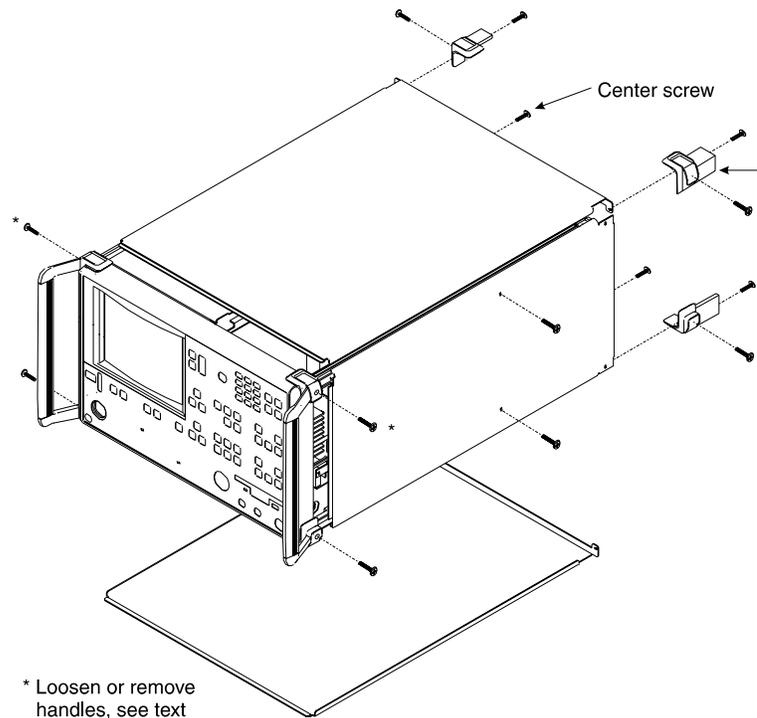

Figure 8-1. Exploded View of 37XXXC Chassis Covers
- Remove the feet from the two top corners at the rear of the VNA (Figure 8-1).